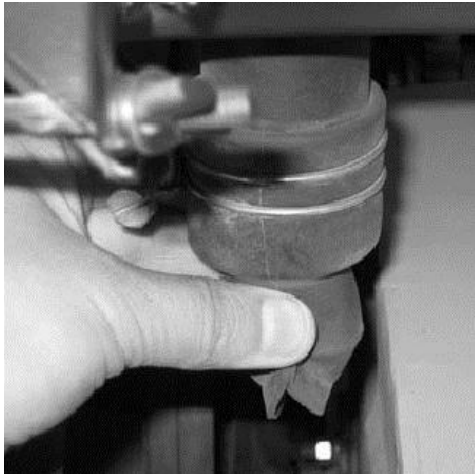

Figure 3-11
3.4.1.8 Inspect the filter element in the air cleaner (Figure 3-11)